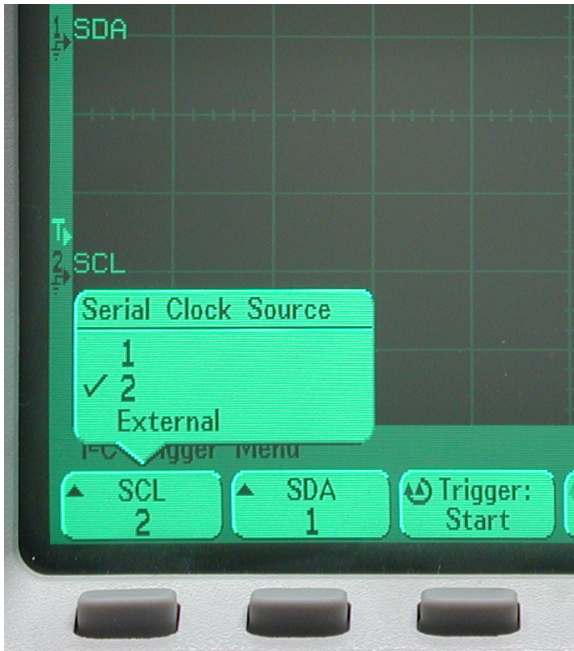

Figure 14: Agilent channel selection
13. The labels on two left most softkeys indicate which channel is assigned to the I²C clock and which is for the data (Fig. 14). If the channel assignment is opposite to how you connected the probes, press either of the two softkeys for the channel assignments. This will bring up a menu for the channel assignment and you can press that key again until the setting is correct. You don't need to change both channels manually since changing one causes the other to also change.